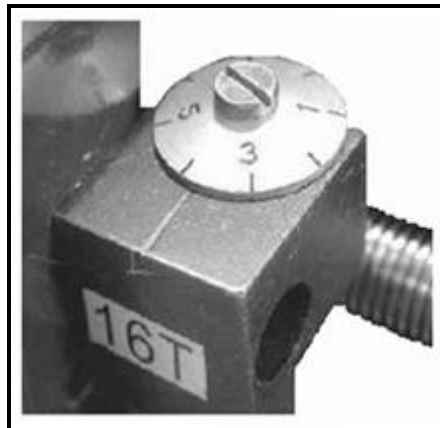

FIGURE 4.1
- 4.1 Identify the lathe component shown in FIGURE 4.1.